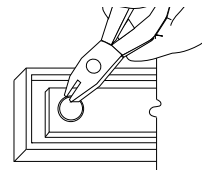

FIG. 1
1. Pry damaged PresLock from holder using pliers. (FIG. 1)
It is necessary for pins to be in a vertical position in order to be mounted properly to fabric panels (see FIG. 1). The pins swing freely from side to side, but must always remain parallel to the holder ends.
When installing, place holder at a slight angle and insert pins into fabric panel (see FIG. 1).